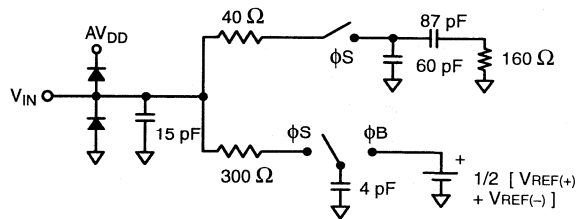

Figure 9. Analog Input Equivalent Circuit
- See V_{IN} input equivalent circuit (see Figure 9).
The MP8795's performance is optimized by using analog input circuitry that is capable of driving the A_{IN} input. Figure 9. shows the equivalent circuit for A_{IN} .